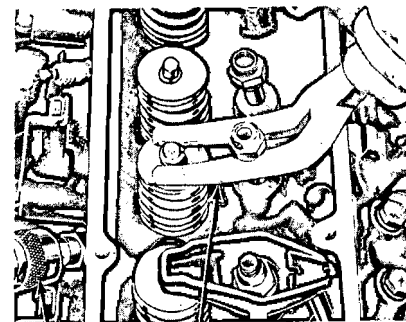

FIG. 35—Compressing Valve Spring—In Chassis
6. Install the stud nut and position the compressor tool as shown in Fig. 35. Compress the valve spring and remove the retainer locks, spring retainer and valve spring.